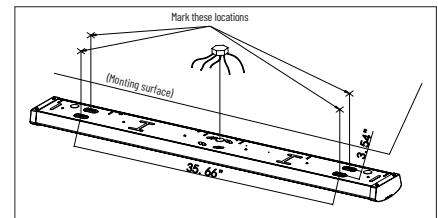

Figure 2
- iv. Align knockout hole with supply wire location on the mounting location with one Hand while marking the location of the 4 keyholes slots at each end of the housing. (Figure 2)